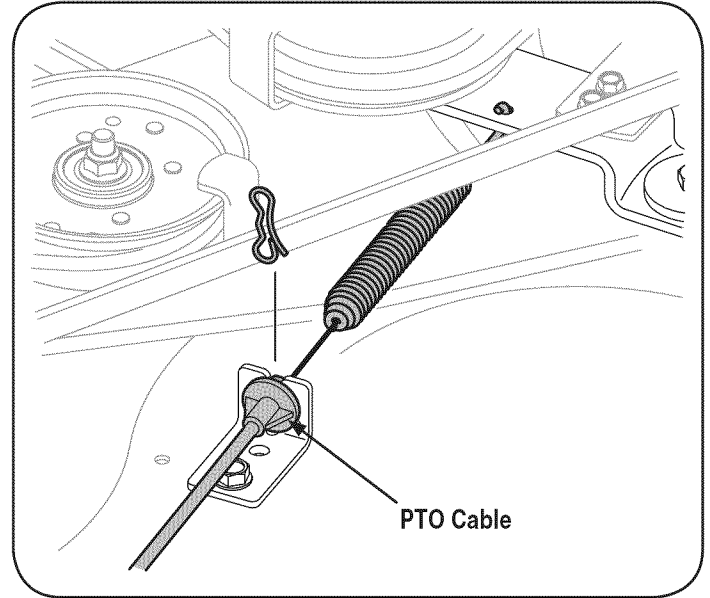

Figure 25
7. Carefully remove the PTO cable from the rear of the cutting deck by removing the bow-tie cotter pin which secures it. Remove the spring from the deck idler bracket. See Figure 25.